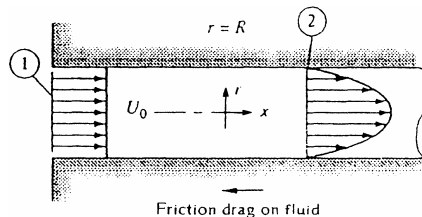

Fig. P3.53
3.53 Consider incompressible flow in the entrance of a circular tube, as in Fig. P3.53. The inlet flow is uniform, $u_1 = U_0$. The flow at section 2 is developed pipe flow. Find the wall drag force F as a function of (p_1, p_2, ρ, U_0, R) if the flow at section 2 is